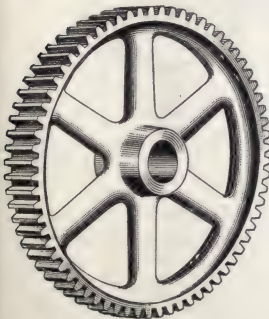

FIG. 20.
**42.** A wheel that is provided with teeth that mesh with similar teeth on another wheel is called a **gear-wheel**, or **gear**. In Fig. 20 is shown a **spur gear**. On spur gears